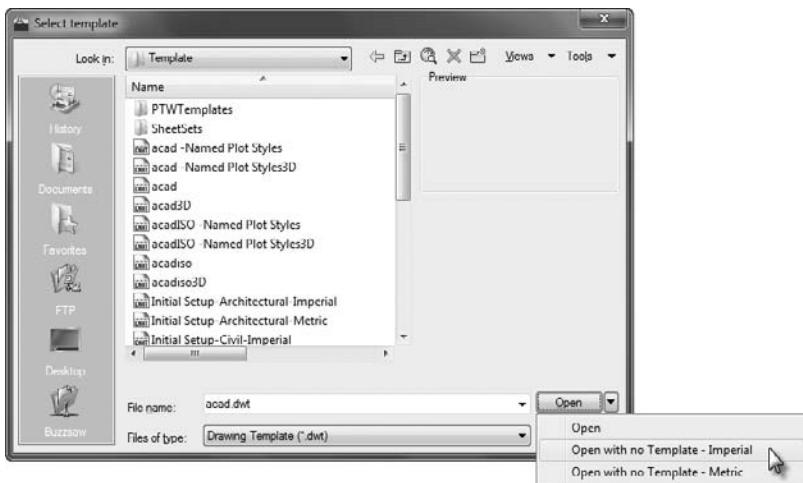

FIGURE 3.1 The Select Template dialog box
- With AutoCAD running, close all drawings and then click the New button (on the Quick Access toolbar) to start a new drawing. In the Select Template dialog box, click the arrow to the right of the Open button and select Open With No Template – Imperial (see Figure 3.1) or Open With No Template – Metric, depending on your preference.